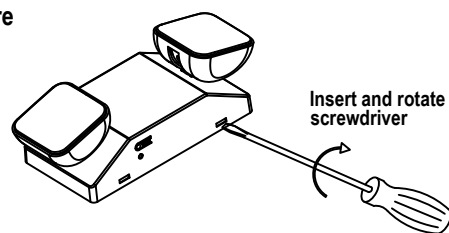

Fig 1
1. Using flat screw driver pry off front cover from back plate (see Fig 1).